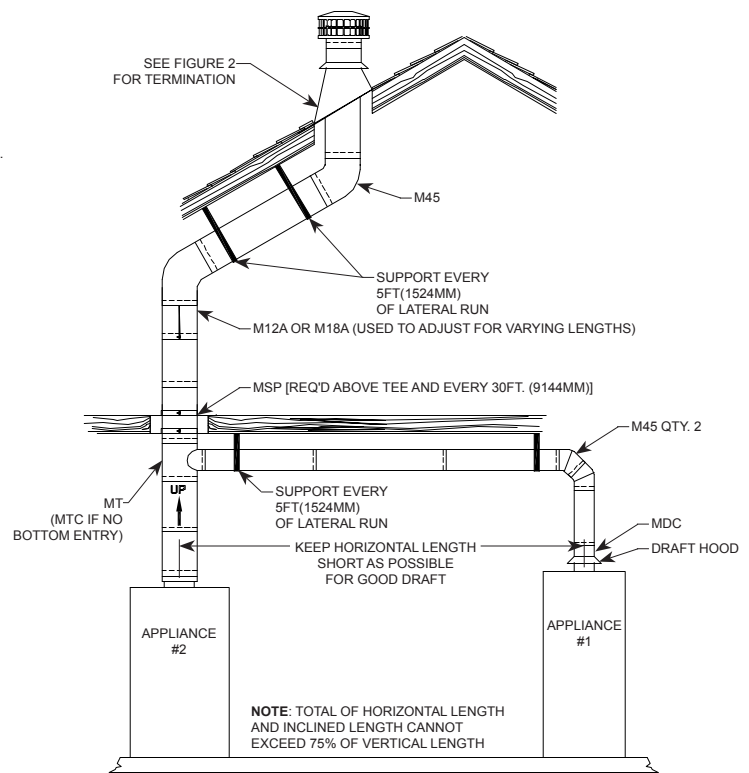

FIG. 3
- If the installation requires offsets, elbows are available. The inclined run (distance between elbows) must be supported every 5 feet (1542mm). Plumbers straps are acceptable. Total lateral and horizontal length shall not exceed 75 percent of total vertical height (See FIG. 3).
- It is acceptable to use a tee (MT) to multi-vent appliances into a common vent (See FIG. 3). A support plate (MSP), or other method, is required to support the gas vent weight above the tee. The horizontal run of the vent must be supported every 5 feet (1524mm). If no vent enters the bottom of the tee, a tee cap (MTC) is required to close the tee.
- Because the available lengths of vents may not meet your installation needs, an adjustable vent section (M18A) may be needed. The male end of the adjustable section engages in the same manner as the vent section, the female end opens to accept the male end of the vent section, then must be secured by tightening the clamp of the adjustable section (See FIG. 3).
- If the vent system must increase in size due to vent capacity, use an appropriate increaser (MI). The increaser is installed the same as any vent section.